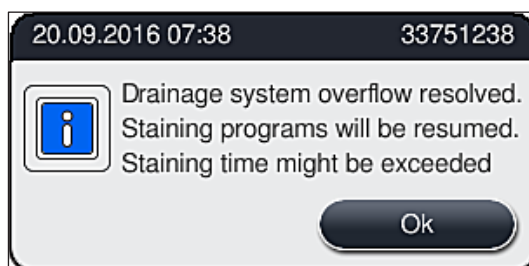

Fig. 119
5. Close the instrument cover and confirm the information message (→ "Fig. 119") by pressing **OK**.